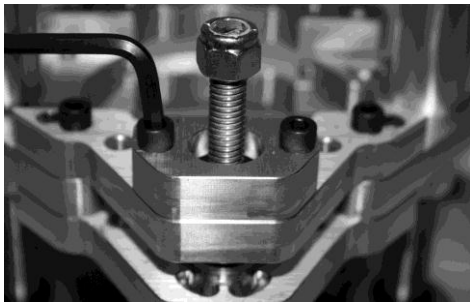

Figure 8
2. Remove the 1/4-20 x 1" Cap Screws from the Carriage Nut Cover (Figure 8) and remove the cover and o-ring (Figure 9)
Place back the o-ring and carriage nut cap and with the screws you removed in (Figure 8) fasten the carriage nut cap securely.